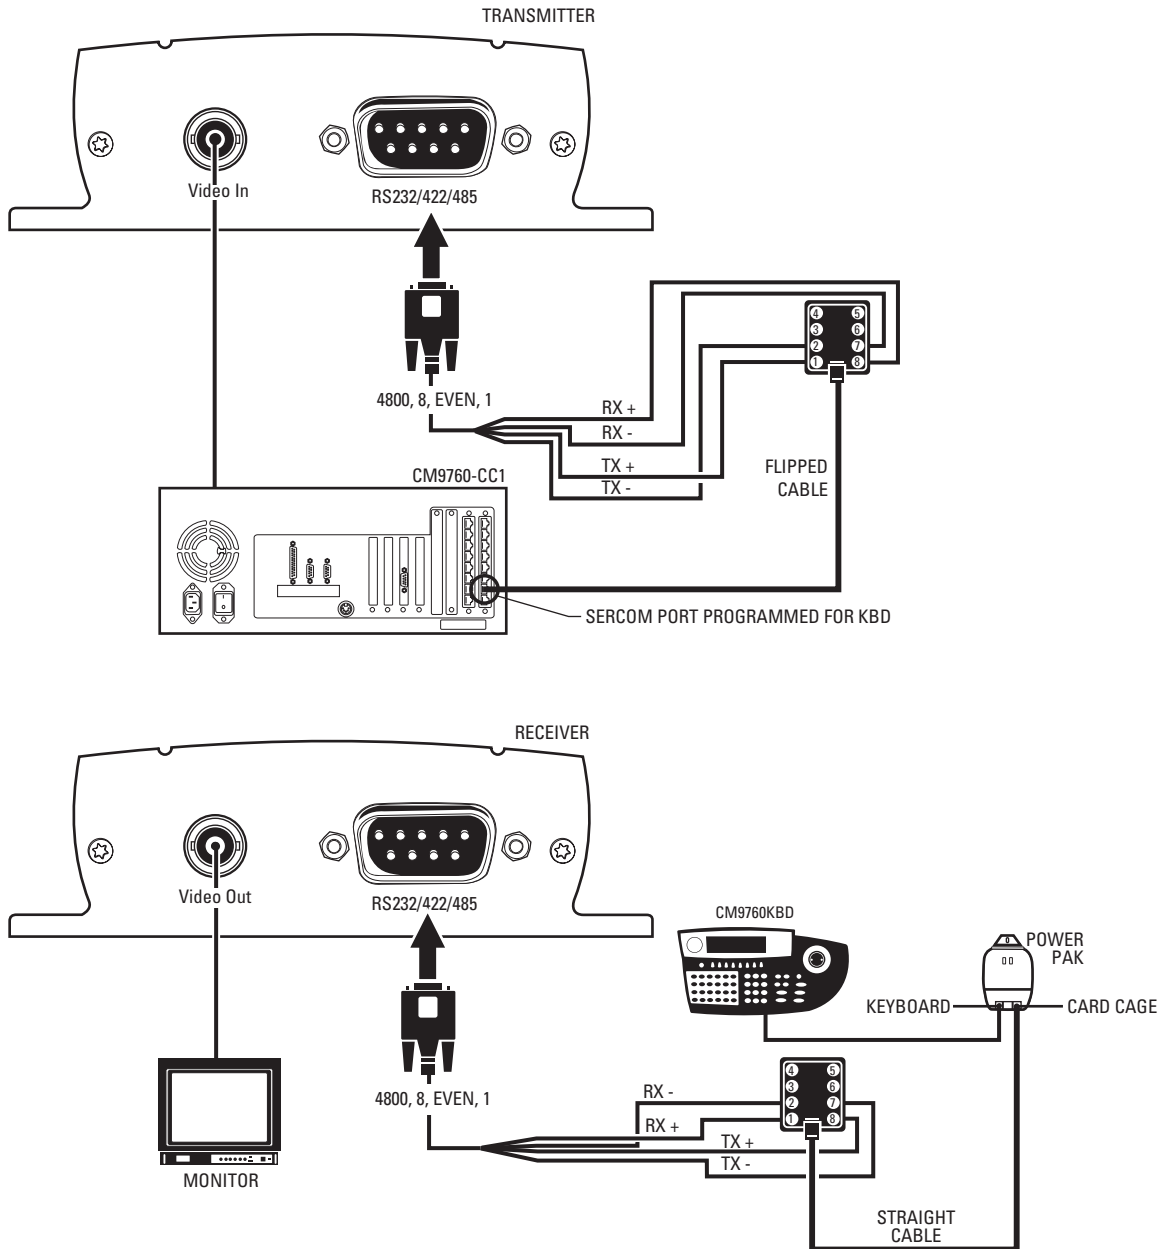

Figure 46. CM9760KBD Connected to a CM9760-CC1 Controller
Refer to Figure 46 and the instructions that follow.
6. Refer to Figure 43 and Figure 46. Splice the supplied DB9 cable into the CM9760-CC1 wall block. Connect TX– from the NET300 transmitter to terminal 2 on the wall block, TX+ to terminal 1, RX– to terminal 7, and RX+ to terminal 8.